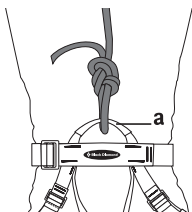

Figure 5
◆ Tie the climbing rope in to the tie-in loop as shown in figure 5. **Failure to tie in correctly can result in severe injury or death!**
- ◆ Correctly attach the rope to your Type C sit harness as shown in figure 5.